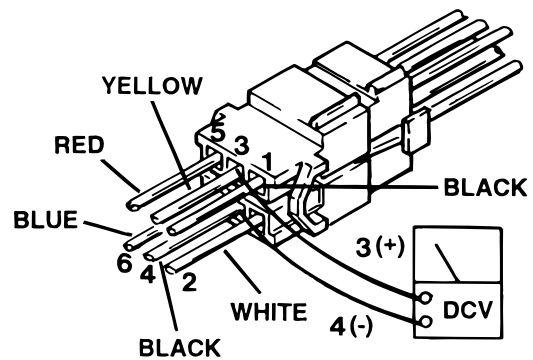

Figure 6-6. Connector CN12 Test
2. With AC120V power ON, use a DC voltmeter to test pin 3(+) and pin 4(-) of CN12. DO NOT disconnect connector CN12. See figure 6-6
The BATTERY and AC120V power ON indicators can be checked with an LED tester. Test BATTERY indicator at pin 1(+) and pin 2(-) of 24 pin Pendant Control connector. Test AC120V indicator at pin 1(+) and pin 3(-). See figure 6-6.